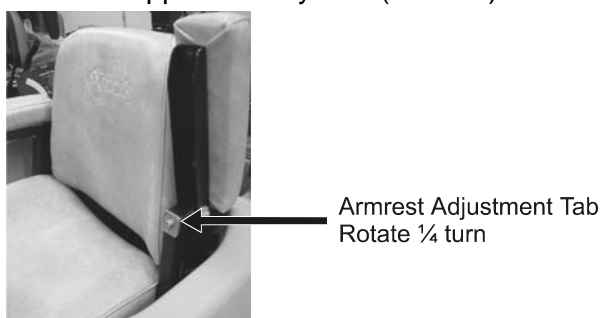

FIGURE 18
- a) **(All models except Kohler EFI):** Lift armrest on seat. Locate square tab marked with the numbers 1 through 4. Rotate square tab 1/4 turn to raise or lower the armrest in approximately 1/4" (6.4 mm) increments. See Figure 18.